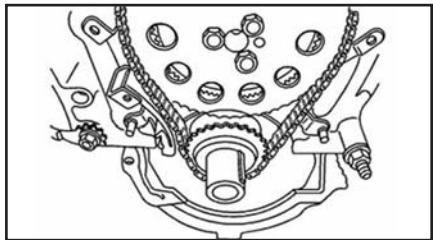

Figure 5 Position top of guide under tab bracket.
8. Install the nylon timing chain tensioner guide onto the timing chain tensioner bracket pin and position the top of the guide under the tab at the top of the bracket (see **Figure 5**, above).